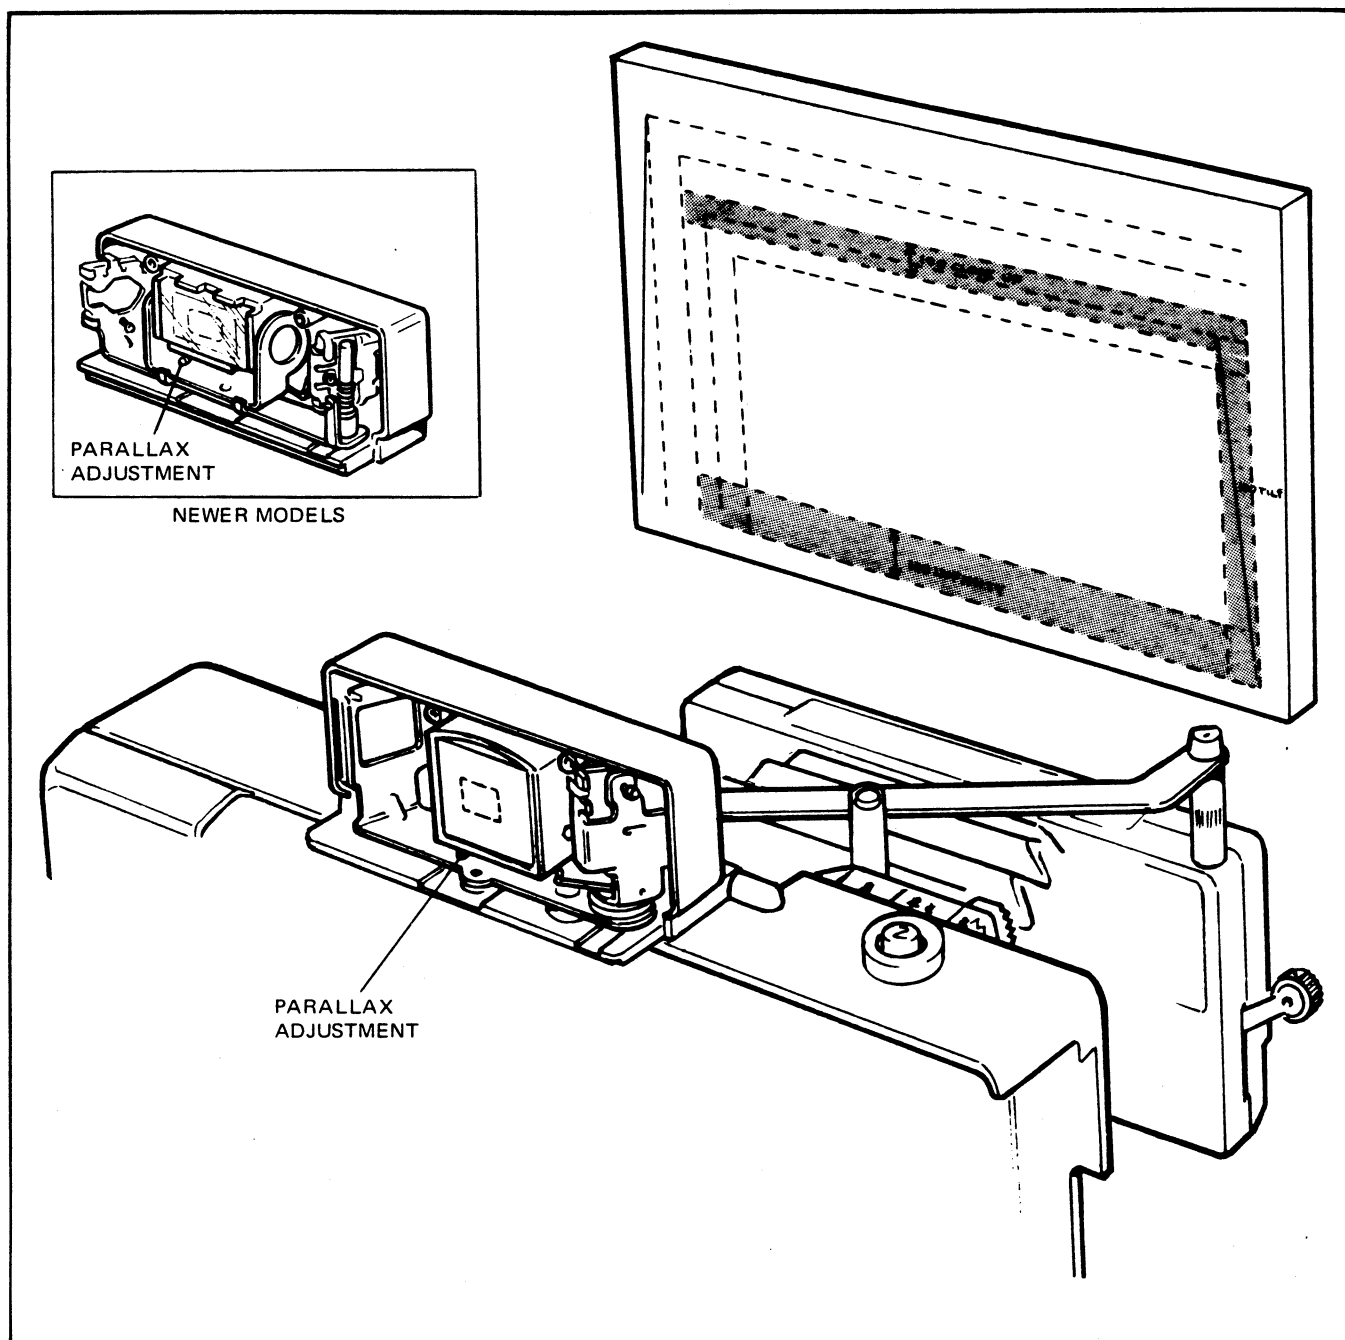

FIG. 5.51 PARALLAX ADJUSTMENTS FOR POLAROID RF/VF
- c. Observe the frame target through the viewfinder eye lens. Using tool number 169443, turn the viewfinder optics adjusting screw until the top and right side lines of the projected frame image are within the areas bounded by the 100 close-up and 100 tilt target lines when the focus bar is set to CLOSE-UP (Figure 5-51). Also, adjust the same screw until the bottom and right lines of the projected frame image are within the areas bounded by the 100 infinity and 100 tilt target lines when the focus bar is set to INFINITY. When the adjustments are done,